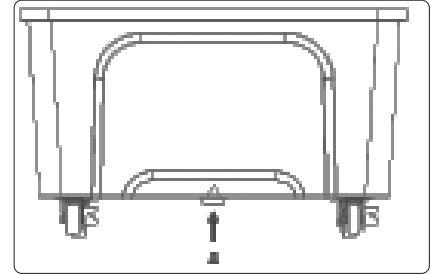

fig.5
- 8.3.2. To empty the tank pull out the water plug at the bottom of the tank to drain, ensure all water has been drained out before re-tightening the water plug (fig.5).